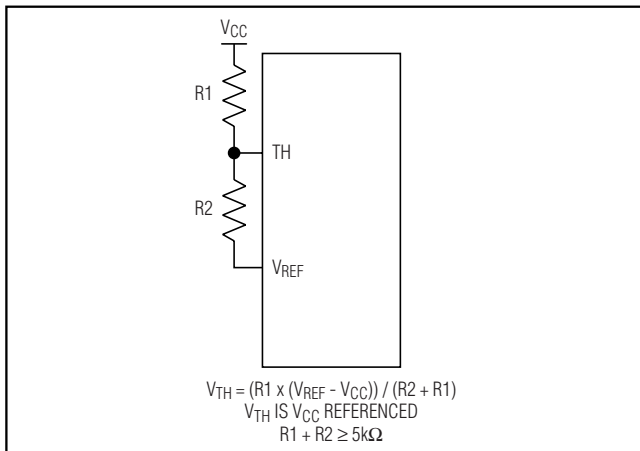
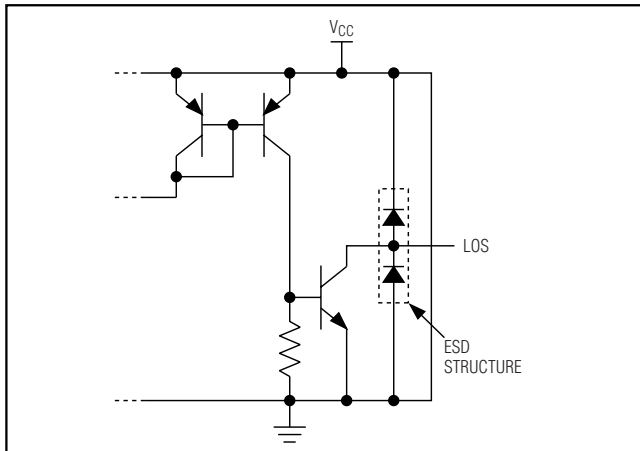

Figure 5. MAX3747/MAX3747A LOS Threshold Circuit
Figure 6. MAX3747/MAX3747A LOS Output Circuit
**Note 9:**  $V_{TH}$  is the voltage at pin 5 referenced to  $V_{CC}$  (see Figure 5).
The MAX3747/MAX3747A are equipped with LOS circuitry that indicates when the input signal is below a programmable threshold, set by a voltage on the TH pin (see the *Typical Operating Characteristics*). The voltage on the TH pin is set by two resistors, one connecting from the TH pin to VCC and the other connecting from TH to VREF (Figure 5). An RMS power detector compares the input signal amplitude with this threshold and feeds the signal-detect information to the LOS output, which is open collector. To prevent LOS chatter in the region of the programmed threshold, approximately 2dB of hysteresis is built into the LOS assert/deassert function. Once asserted, LOS is not deasserted until the input amplitude rises to the required level. Figure 6 shows the LOS output circuit.
Program the LOS assert threshold according to Figure 5. The combination of R1 and R2 should be greater than or equal to 5kΩ, see the Assert/Deassert vs. VTH graph in the *Typical Operating Characteristics*.